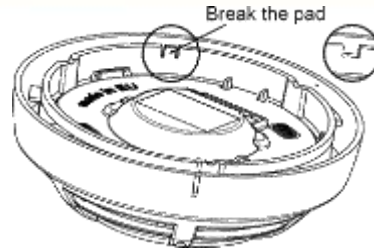

Fig.3
- Break the plastic at the specified location on the bottom of the sensor (Figure 3)